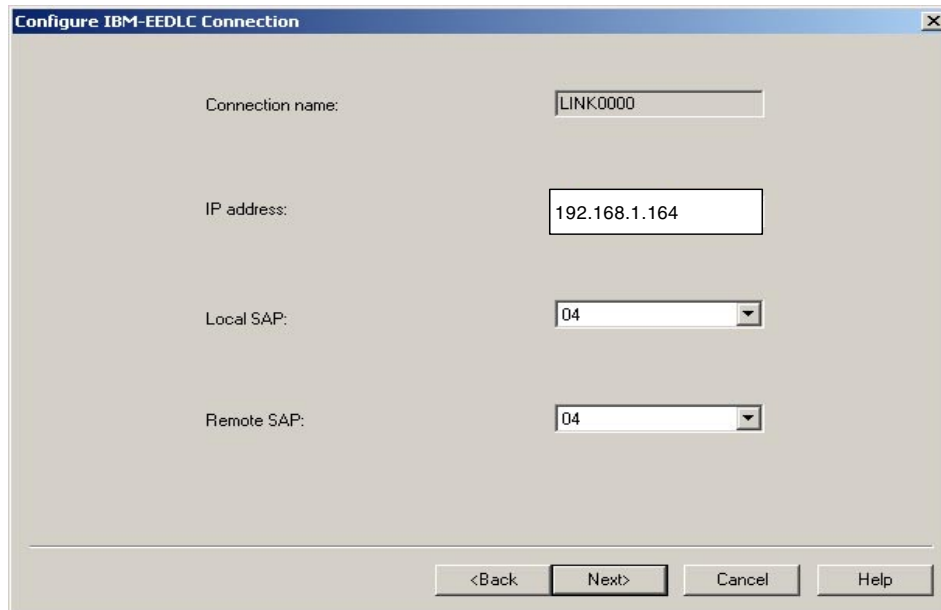

Figure 10-8 IBM-EEDLC connection
5. We entered the IP address of SC64 and used the default SAP of 04, as shown in Figure 10-8 on page 154, and clicked **Next**. We then clicked **OK** and saved the new configuration for EE.